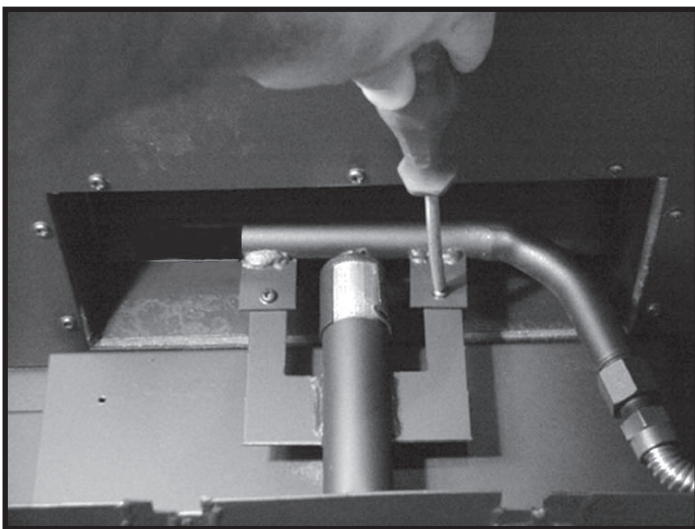

Figure 17: Unscrewing manifold from the burner.
2. Remove the two screws securing the manifold assembly to the burner (Figure 17).